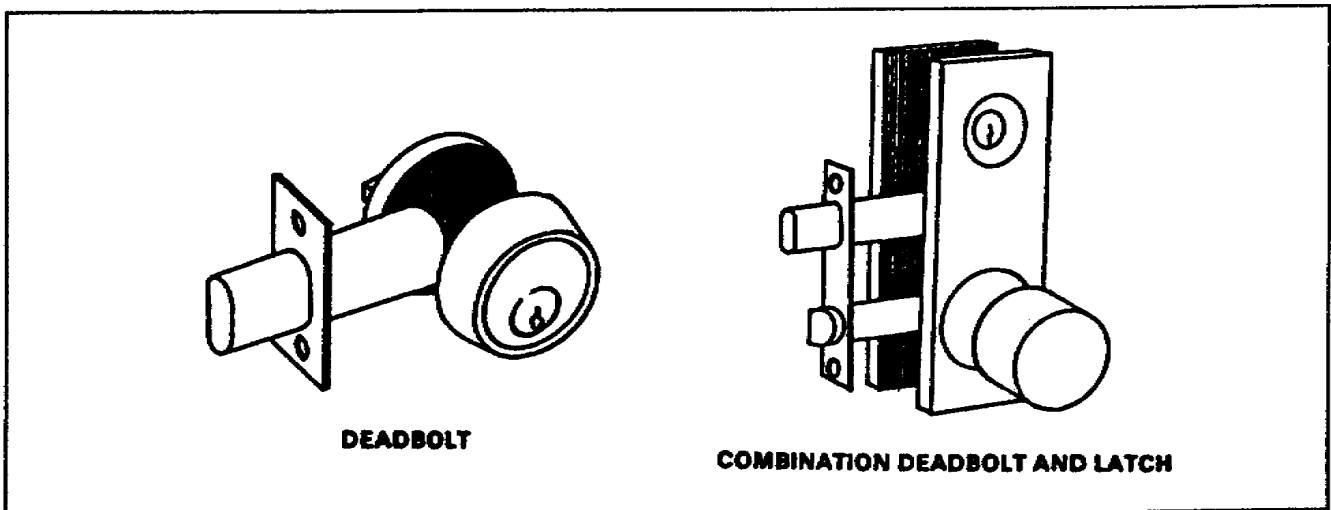

Figure 1-61. Dead bolt locks
d. Dead Bolts. Dead Bolts are used where added security is needed. They are constructed of very hard steel. Figure 1-61 shows a combination dead bolt and combination dead bolt and latch.